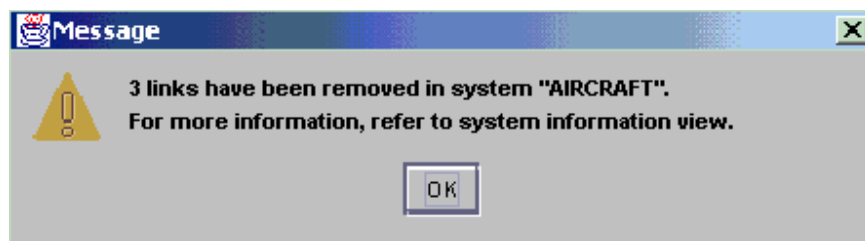

Figure 140 : Link deletion message
- ◆ When a link is deleted in architecture, a message (Figure 140) indicates its deletion.